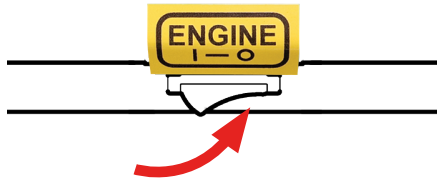

Fig.8B - Start switch off
2. Press the start switch (located with the control components) to the *off* position (Fig.8B).